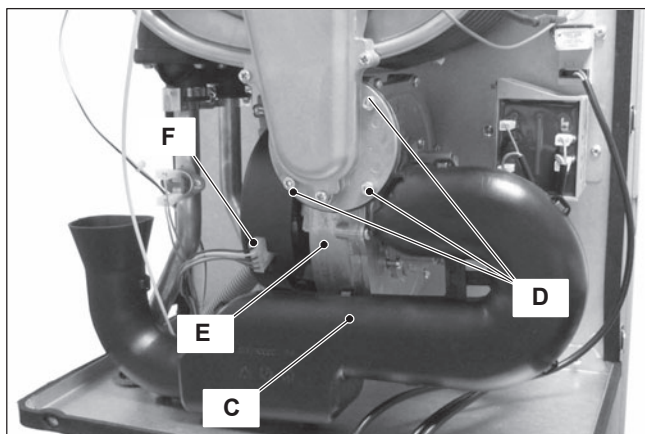

Figure 17.2
- 3 Disconnect the air manifold C (Figure 17.2) by pulling it.
- 9 Disconnect the fan connector K by pressing the plastic hook placed on the side of the connector (Figure 17.2).
- 10 Unscrew the screws D (Figure 17.2).